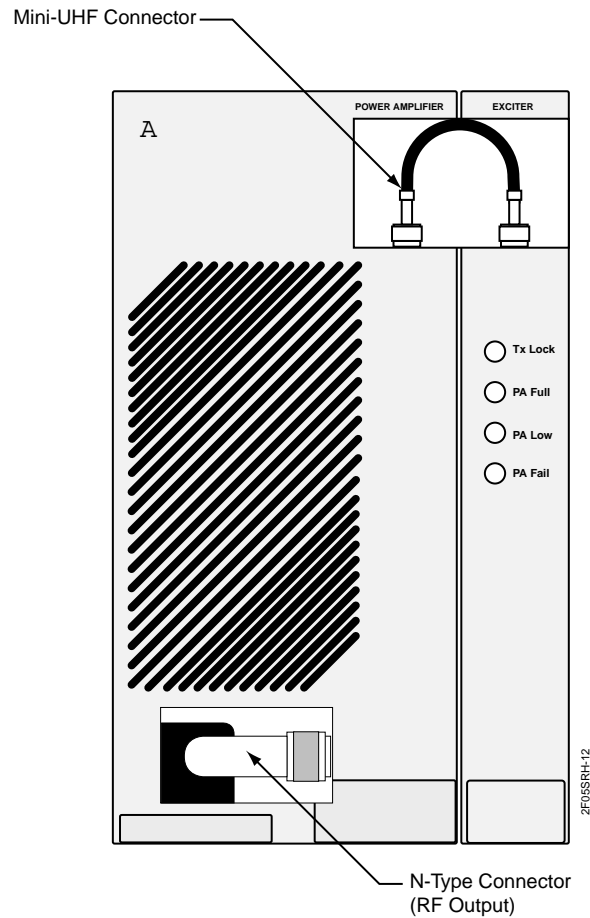

Figure 10-2: Location of N-type Connector and Mini-UHF Connector in a Standard Power Nucleus Paging Station
5. Disconnect the mini-UHF connector on RF cable that connects the Exciter to the PA (see Figure 10-2).
5. Disconnect the mini-UHF connector on RF cable that connects the PA to Exciter (see Figure 10-2).